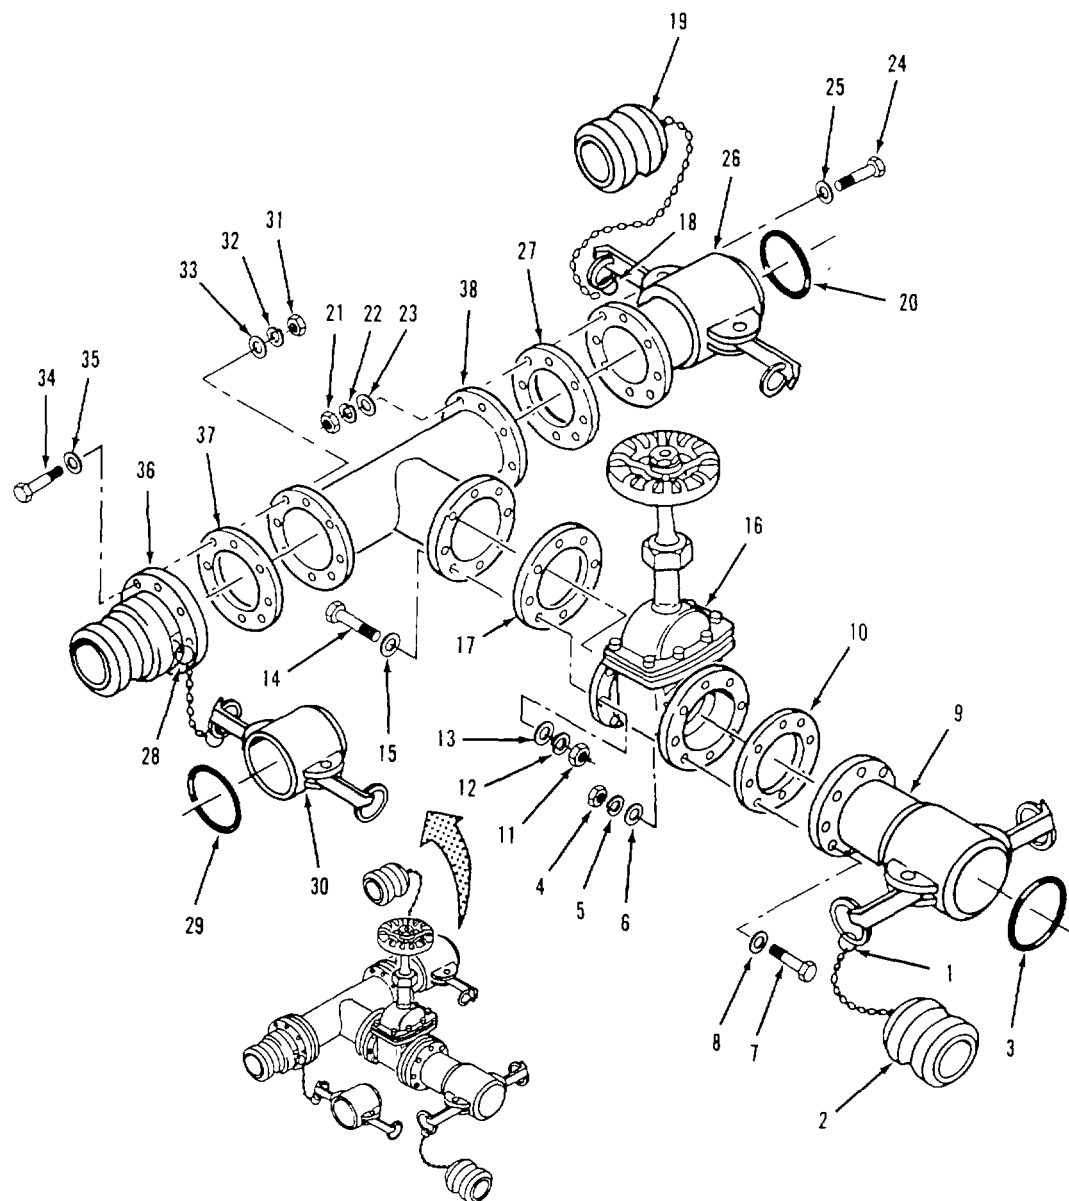

Figure 4-37. Tee and Gate Valve Assembly (9114-Y6) Assembly.
- (1) Refer to para. 4-31 to repair gate valve.
- (2) Replace defective components. Do not reuse sealing components.
e. Assembly. Refer to figure 4-37.
- (1) Position gasket (37) and male coupling (36) on tee (38).
- (2) Install eight flat washers (35), screws (34), flat washers (33), lockwashers (32) and nuts (31).